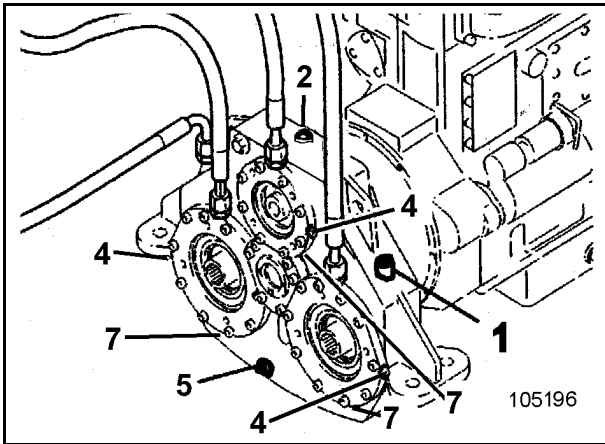

Fig. 3-102
- Unscrew plug (7, Fig. 3-102) and drain off oil.
- Screw plug (7) back in place.